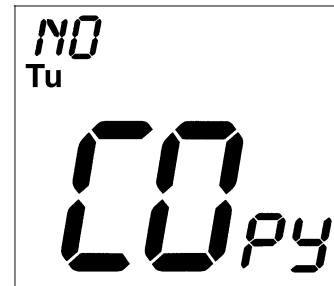

Fig. 10 — Copy Command Display
- The Copy command can be used to copy the previous day's schedule if the schedules are the same. The copy command becomes available after all the occupied periods are programmed in a day. Use the UP ARROW to change the copy command to YES. Use the DOWN ARROW to change the copy command to NO. Press the Mode button when the choice has been made. See Fig. 10. If NO was selected, the schedule will automatically change to the next day and the user must enter the occupied and unoccupied schedules for that day.